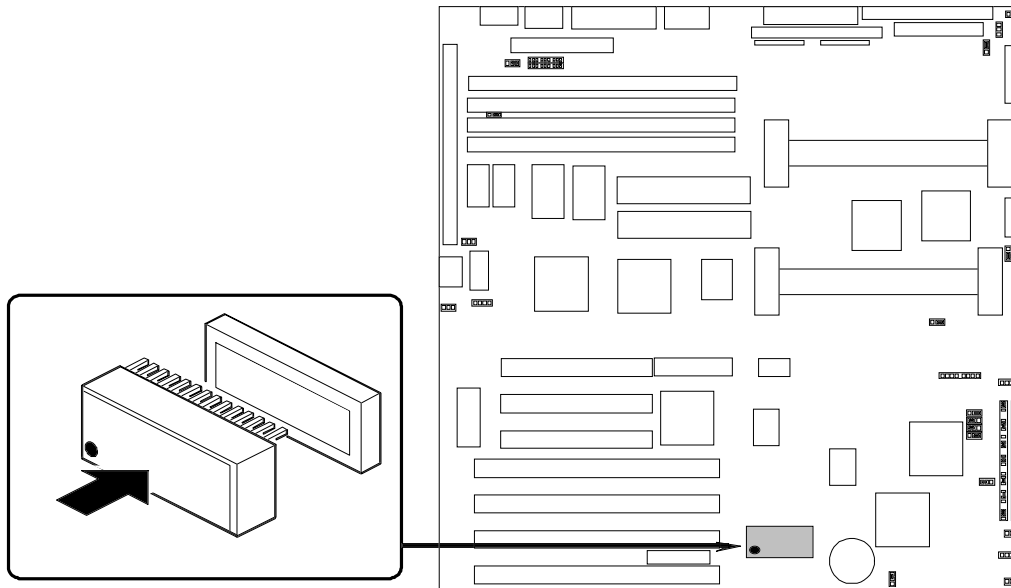

Figure 4-2 Non-Volatile Memory Location
2. Using a IC removal tool or a small pointed tool, gently pry up each end of the non-volatile memory and pull it straight up out of its socket (Figure 4-2).